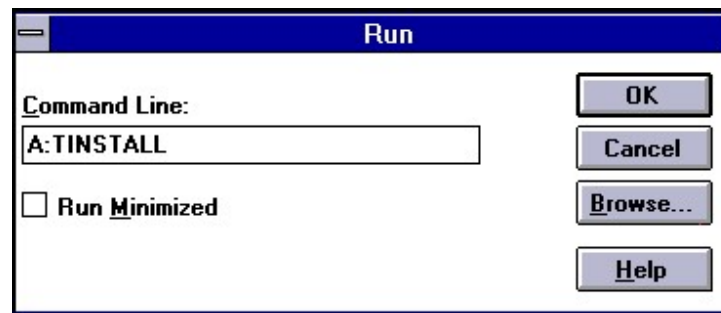

Figure 2.
- ✿ 5. TYPE in "X:WIN_31\INSTALL" (if the display driver disk is in the floppy drive then TYPE in "A:INSTALL") and then PRESS ENTER (see Figure 2).